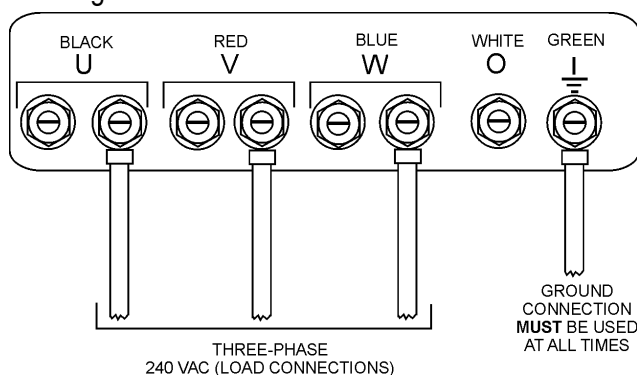

Figure 21. UVWO Terminal Lugs
2. Connect the load wires to the UVWO terminals as shown in Figure 21.